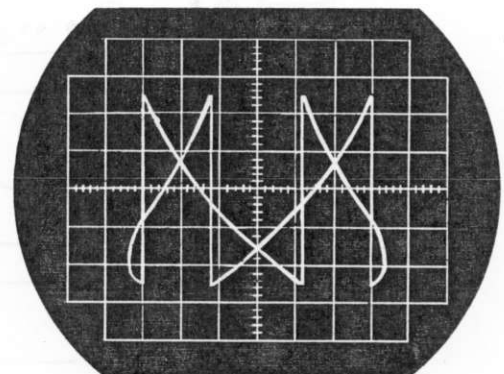

Fig. 19 Lissajous waveform
4. Adjust VR_3 so that a Lissajous pattern is traced on the oscilloscope (Fig. 19).